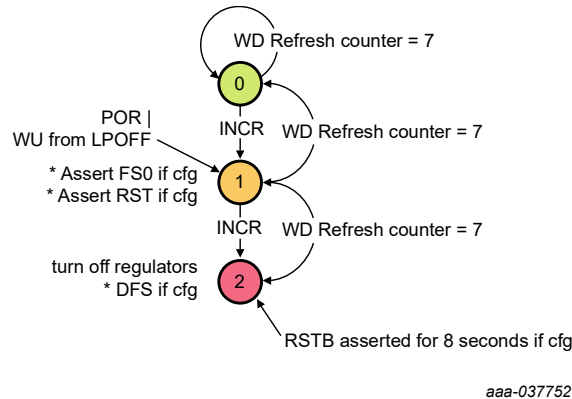

Figure 19. Fault error counter (FLT\_ERR\_FS = 1, WD\_CNT\_RFR = 6)
- FLT\_ERR\_FS = 1/Intermediate = 1; Final = 2 (Figure 19).